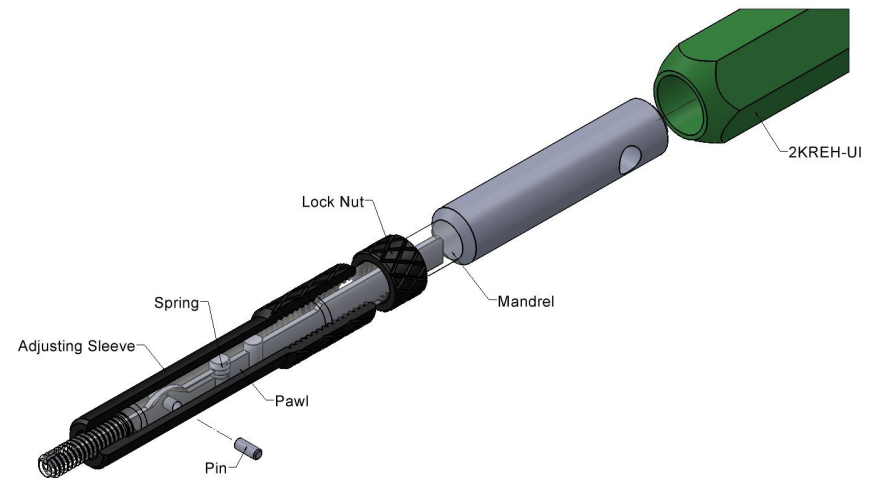

Figure 1
3. Push out the Pawl Pin (see Figure 1). Be careful not to lose the Pin.